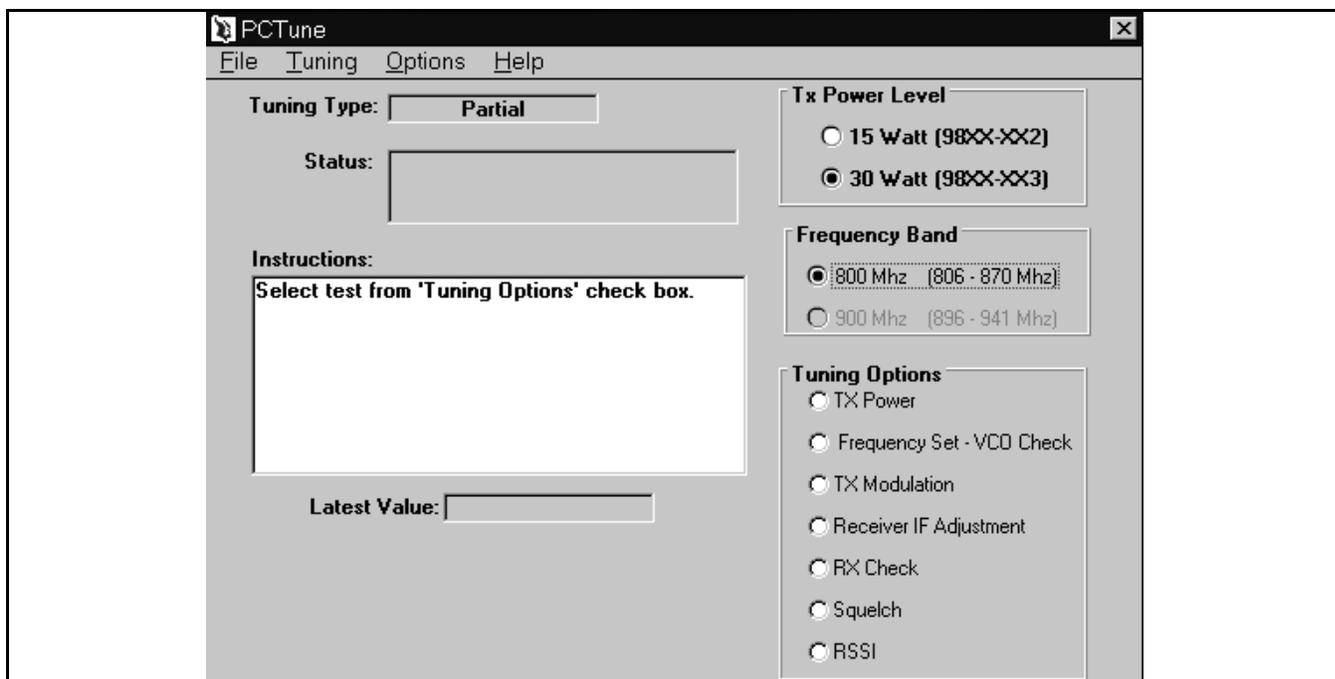

Figure 4-2 PCTune Main Screen
4. Follow the instructions on the screen to display the main screen shown in Figure 4-2. Select Tuning > Complete Tuning to automatically step through a complete alignment or Tuning > Partial Tuning to manually select each adjustment.